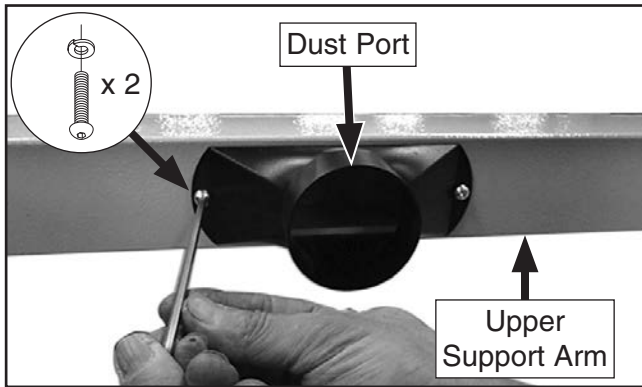

Figure 61. Installing dust port onto upper support-arm.
62. Install dust port on upper support arm, using (2) M6-1 x 12 button head cap screws and (2) 6mm lock washers (see **Figure 61**).